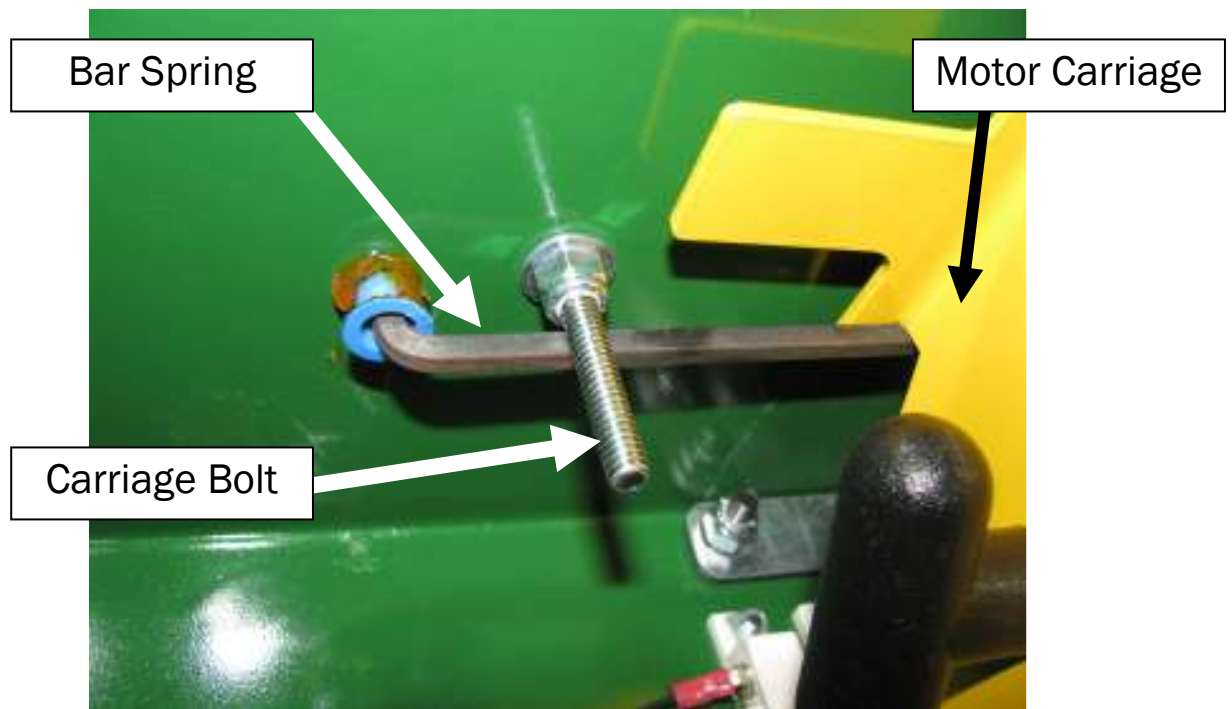

Figure 19
4. The short elbow at the end should face up toward the inside of the case top. Place a plastic cap on the tip of the elbow and apply a small amount of lubricant to the plastic cap to reduce friction resistance. **See fig. 19**